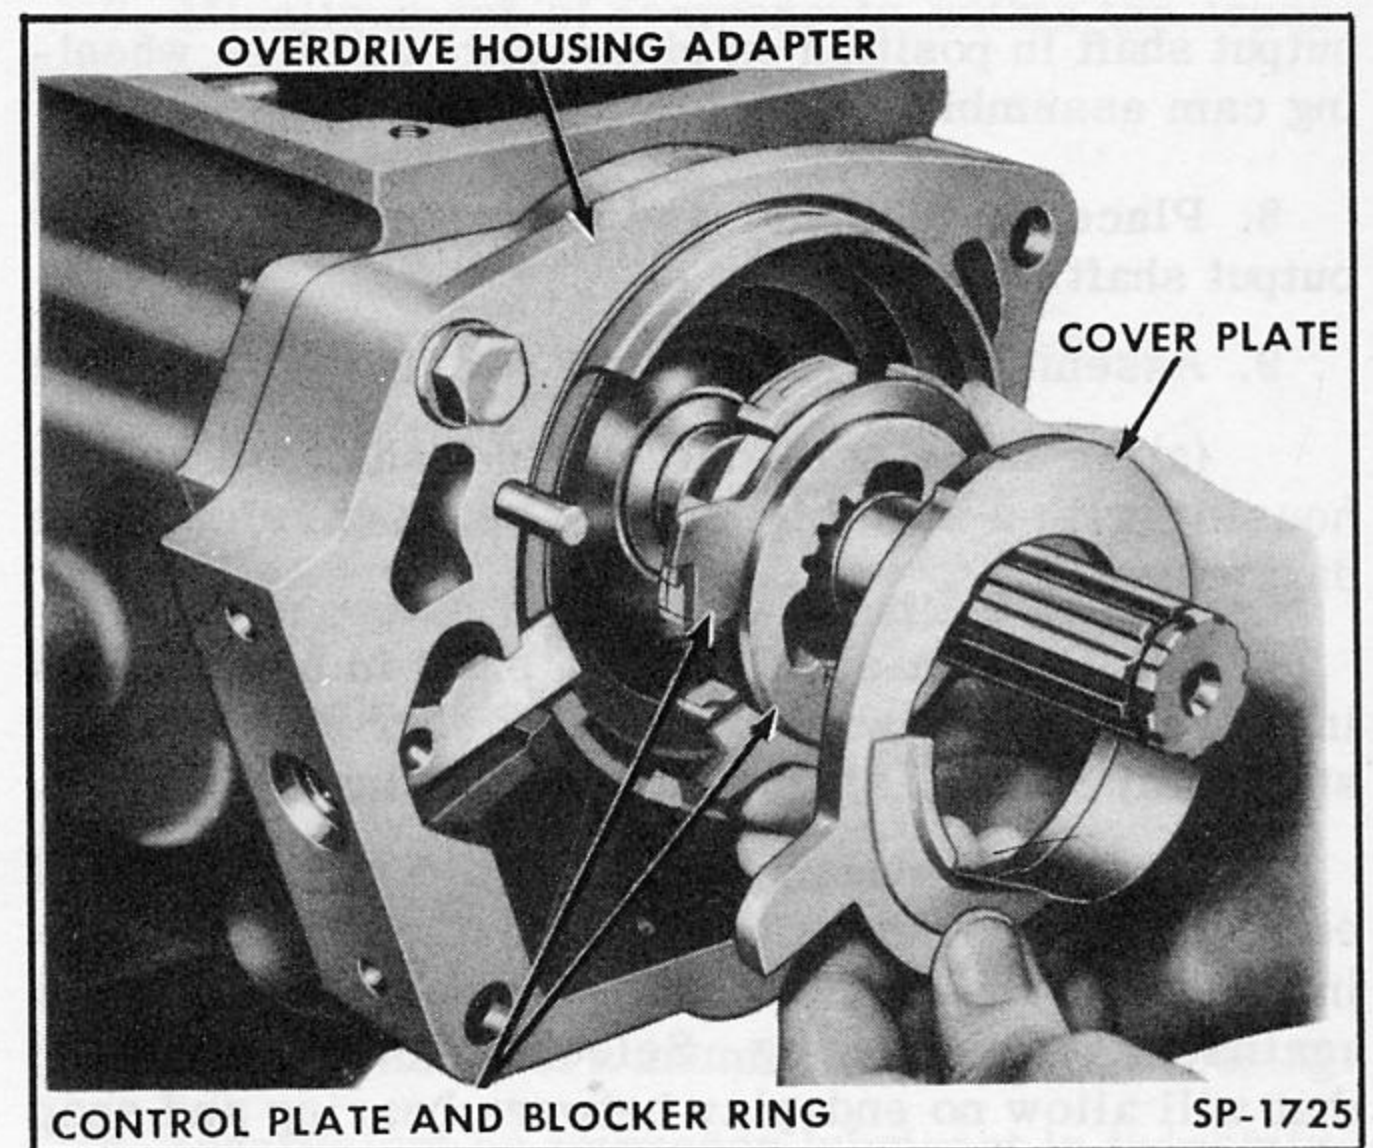

Fig. 149—Installing Control Plate, Blocker Ring and Cover Plate
3. Install the control plate and blocker ring assembly, cover plate, and snap ring to adapter plate (Fig. 149).